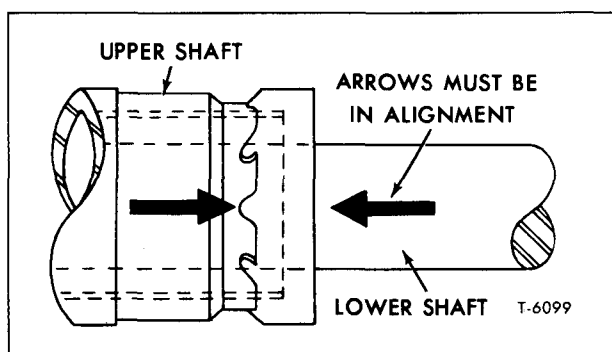

Figure 27—Steering Shaft Lower Slip Spline
NOTE: Whenever the slip spline is disassembled, be careful to align the locating arrows on each half when reassembling (fig. 27). This is necessary to ensure proper universal joint phasing.
5. Slide the two shafts together taking note that the alignment arrows are matched (see fig. 27).